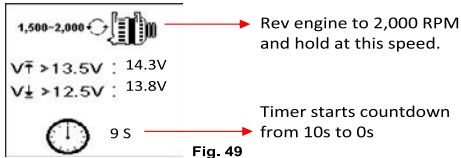

Fig. 49
- Press key and the display will change to as shown in Fig. 49 below. Rev the engine up around 1,500 to 2,000 RPM by referring to the dashboard meter maintain the engine speed as shown in the example: (Fig. 49)